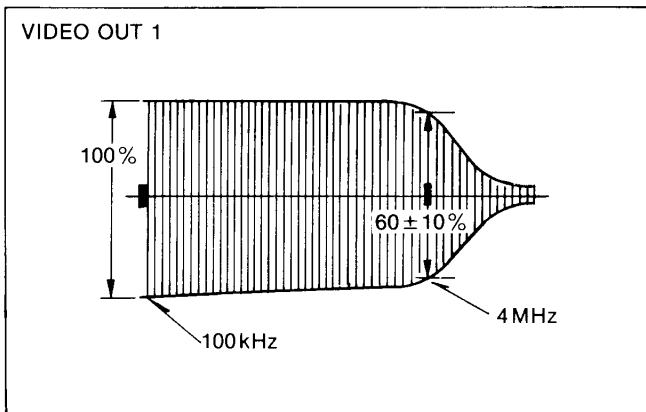

Figure E31
6. Adjust VR3007 so that the playback frequency response becomes the ratio of 100 : 60 +/- 10 at the marker points of 100kHz and 4MHz as shown in Figure E31.